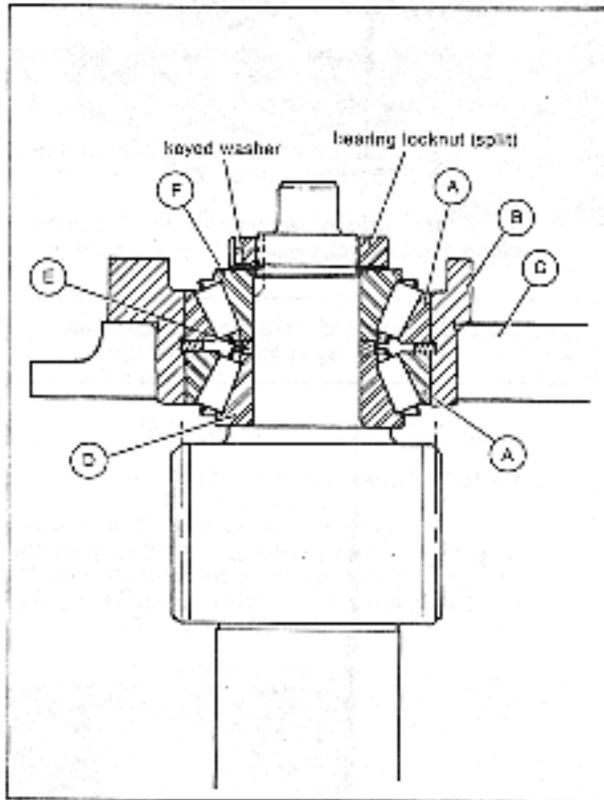

Figure 34. Installing Pinion in Housing Cover.
4. (Refer to fig. 34) Press both bearing cups (A) into bearing retainer (B) snug against bearing spacer.
5. Apply Lubriplate grease or equivalent to outside diameter of bearing retainer and install bearing retainer in housing cover (C).